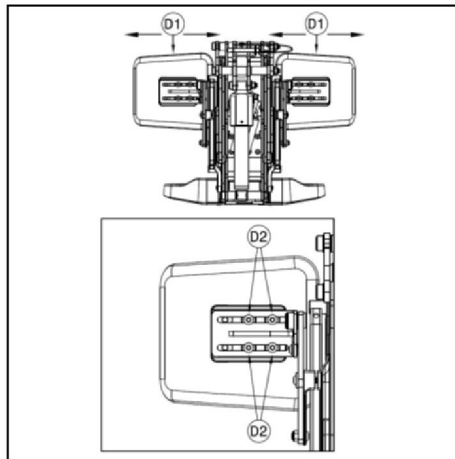

Fig 6
- (1) Use Allen key to loosen four screws <D2>. (Fig 6)
- (2) Adjust the calf-pad <D1> to desired position. (Fig 6)
- (3) Use Allen key to tighten four screws <D2>. (Fig 6)